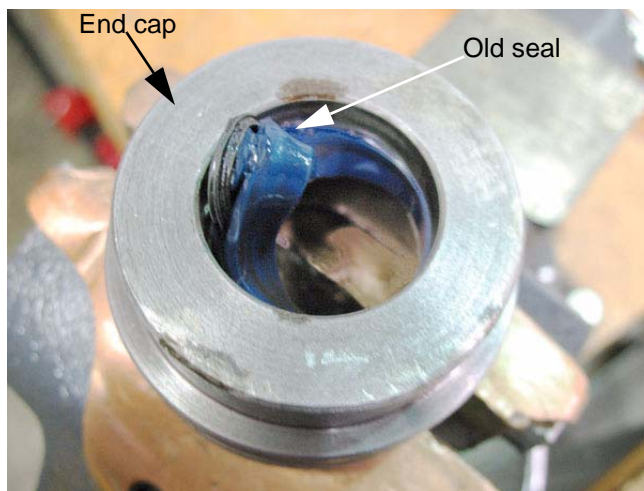

Figure 5.27
- 3.24. Carefully pry the blue inner seal out of the groove in the inside diameter of the end cap. See Figure 5.27.